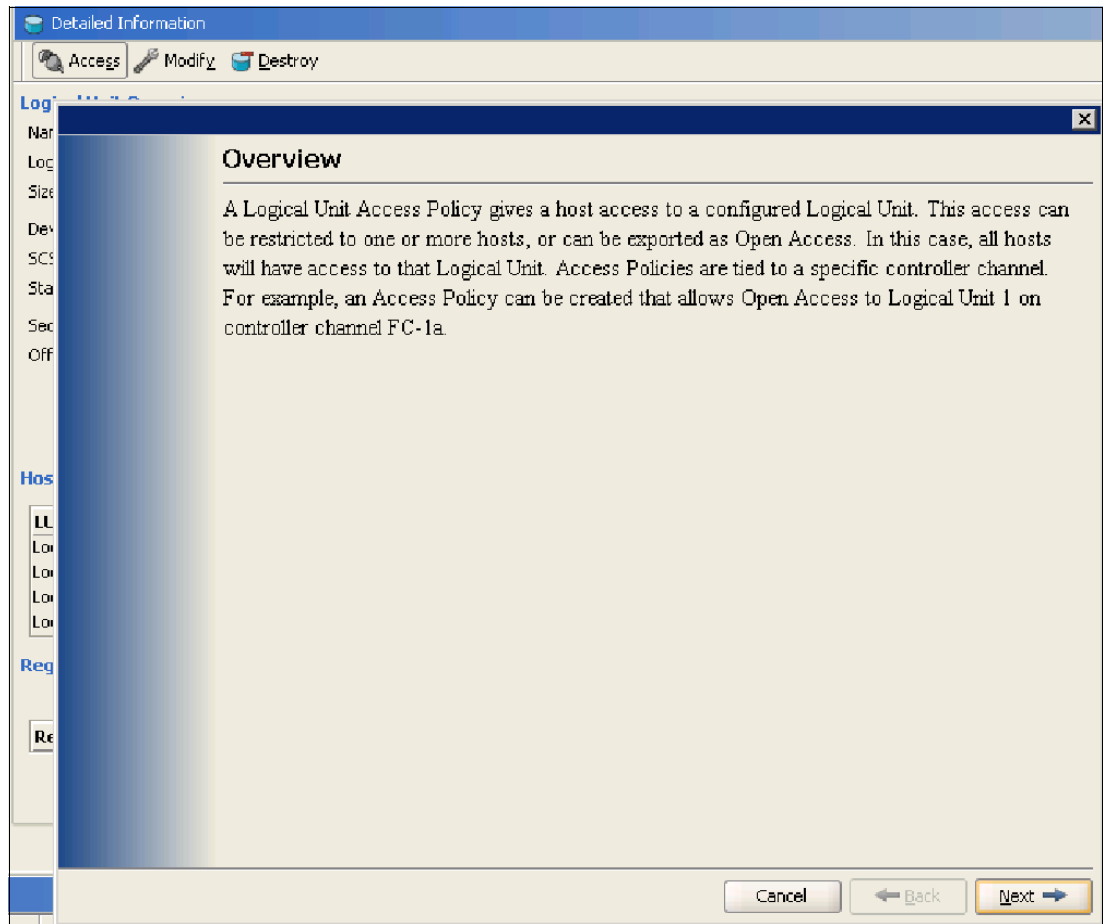

Figure 5-15 Modify Access Overview window
1. Select the volume and click **Access**. An Overview window to modify the access parameters opens, as shown in Figure 5-15. Read the message and click **Next** to continue.